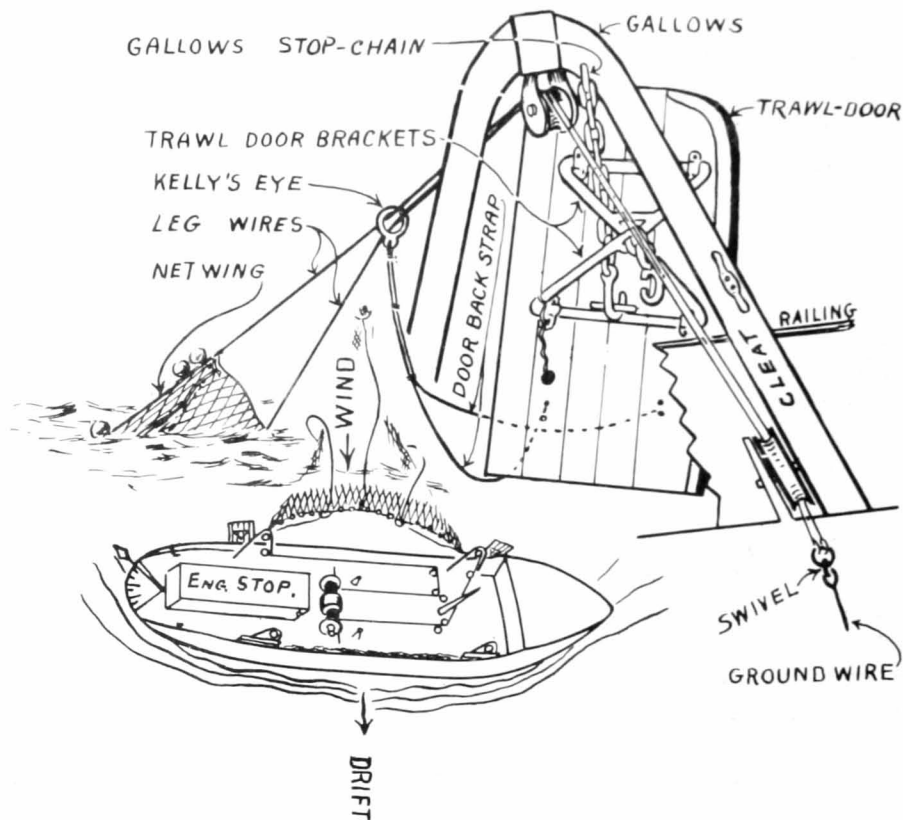

Fig. 3. Rigging of Port-Side After Door and Trawl Spread Broadside to Vessel.
4. When the net and lines are all clear, the headrope is released. The net will then spread outward as the vessel, broadside to the wind, drifts away from the net (fig. 3). At this stage, the footrope will be submerged and the net buoyed up by the floats on the headrope.